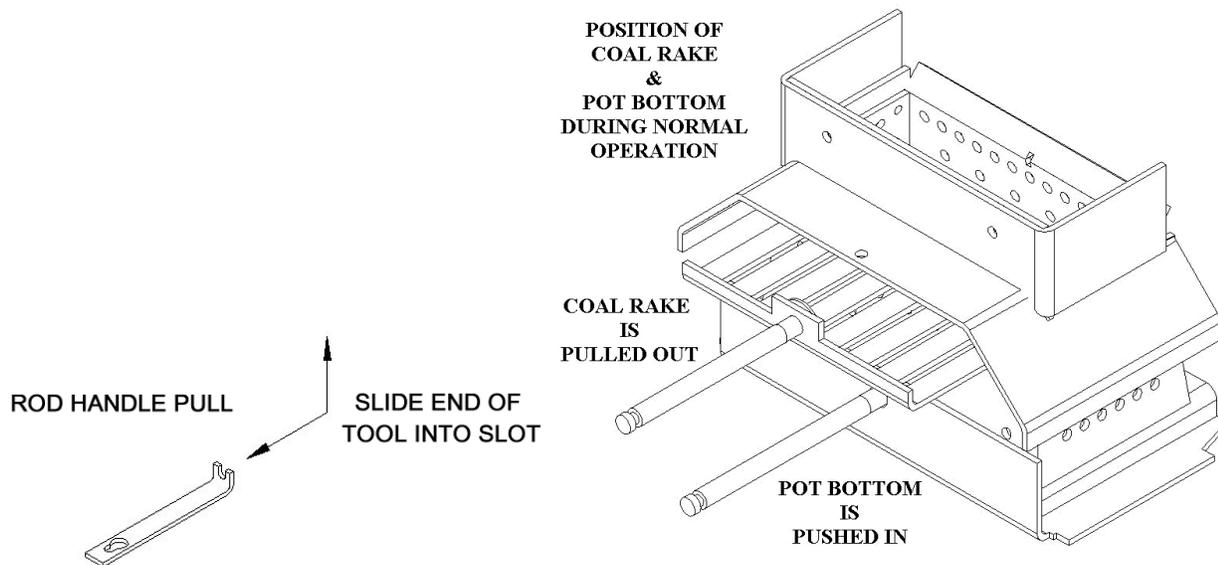

Figure 23
**Step 5 - Dropping the coals back into the burn pot.** At this time pull the coal rake back out of the burn pot to drop the coals in the pot. See position of Coal Rake & Pot Bottom in figure 23 on page 41 for normal operation.
2. Cleaning the Heat exchange tubes. Now you can pull the tube scraper back and forth a couple of times to keep the tubes clean. If the Tube Scraper feels sticky and difficult to move, check for the presence of creosote on the tubes. If creosote is present a damper adjustment may be needed or the Multi-Fuel Insert has become plugged and needs a thorough cleaning. Call Dealer for assistance. To pull the tube scraper back and forth use the Rod Handle tool shown in Fig. 23 on page 41.